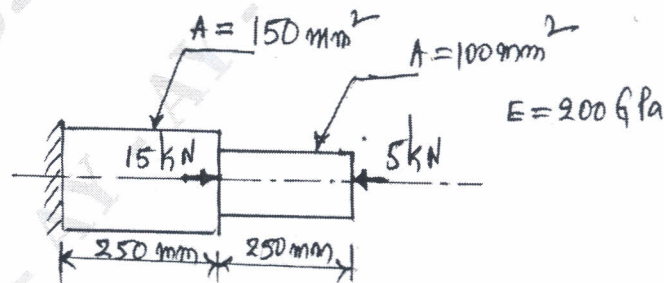

Fig.Q.3(c)
- c. Determine the nodal displacements and stress in each element of the bar shown in Fig.Q.3(c).